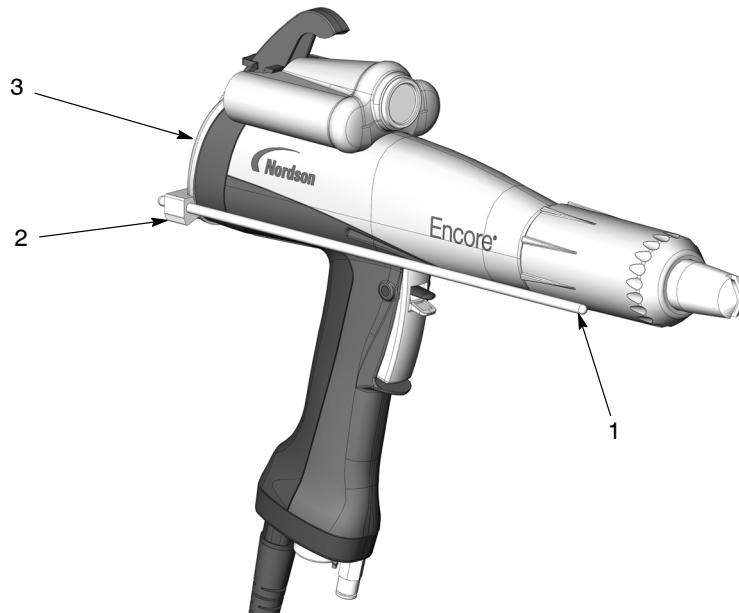

Figure 1 Ion Collector Kit Installed on an Encore Manual Spray Gun with nLighten.
See Figure 1. The kit consists of a collector rod (1), a rod bracket (2), a shield bezel (3), and required fasteners. The distance from the end of the collector rod to the end of the spray gun is adjusted by sliding the rod through the bracket. The rod and bracket are electrically grounded through the gun cable and control unit.